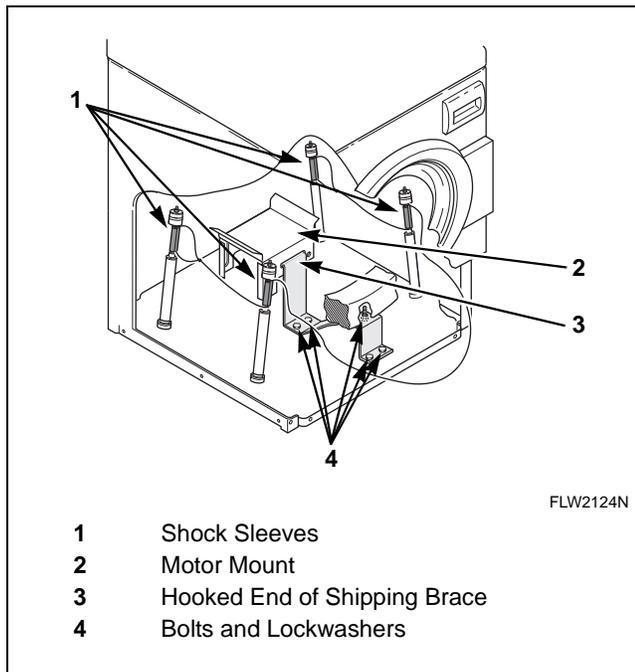

Figure 24
- Place the shock sleeves on all four shock absorbers. Refer to *Figure 24*.
- Insert hooked end of shipping brace into the open slot of the motor mount. Refer to *Figure 24*.
- Attach the brace with the five bolts and washers. Refer to *Figure 24*.